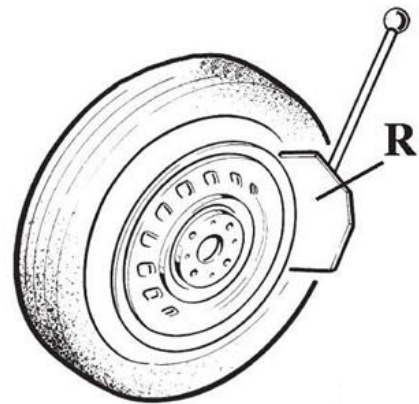

Fig. 4-3-2
- Press the pedal (U) to activate the bead breaker and release it when the blade has reached the end of its travel or as soon as the bead is released (see Fig. 4-3-2)